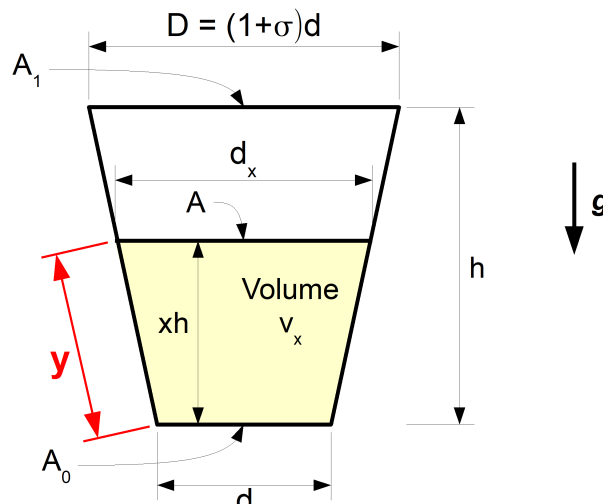

Figure 5
This formula gives the slant distance **y** (shown in red in Figure 5) along the outside of the bucket and measured from the bottom of the bucket such that the top of the planar surface A is located so that the shaded volume of the frustum is v_x . **This distance y lets you calibrate the bucket with a tape measure.**
- v_x = volume of the colored frustum in Figure 5